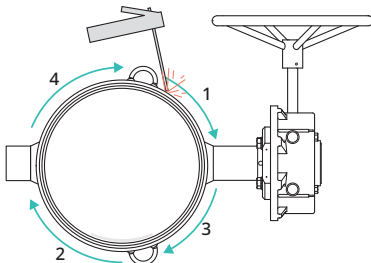
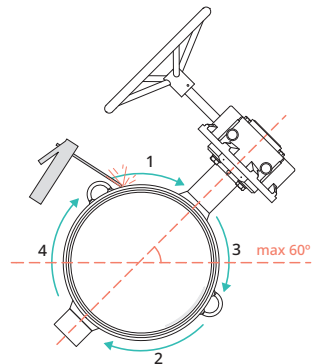

Figure 19. Welding the seams
Figure 20. Welding the seams
- The recommended installation position for the valve is at an angle (see Figure 20.) or with the shafts in the horizontal position (see Figure 19.). Avoid installation with the shafts fully upright.
The greatest angle between stem axis and horizontal axis is 60 degrees (see Figure 20.).
- Then the seams between the bridges are welded as shown in Figures 19. and 20. Welding order: 1-2-3-4.